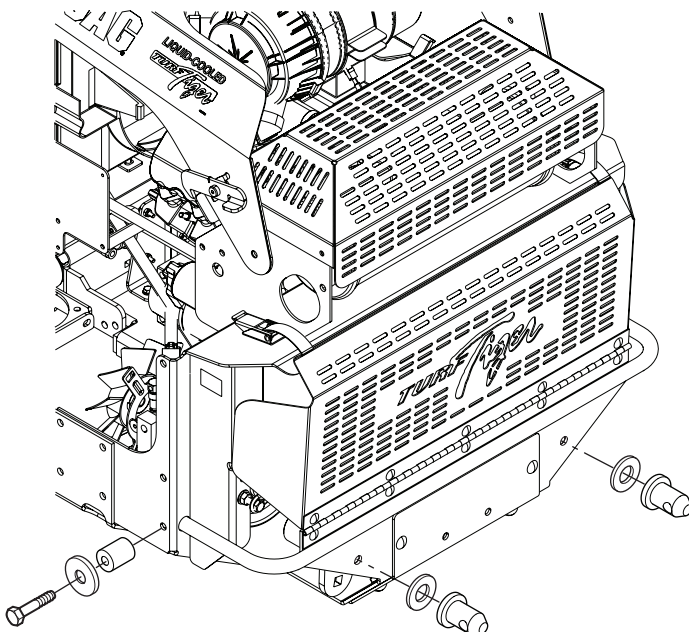

Figure 2-13. STT / STTII Hopper Mounting Hardware Install
10. Install the mounting pins and spacers on to the rear of the STT or STTII machine as shown. Secure using the hardware provided, use "Blue" loctite on the bolts. See Figure 2-13.